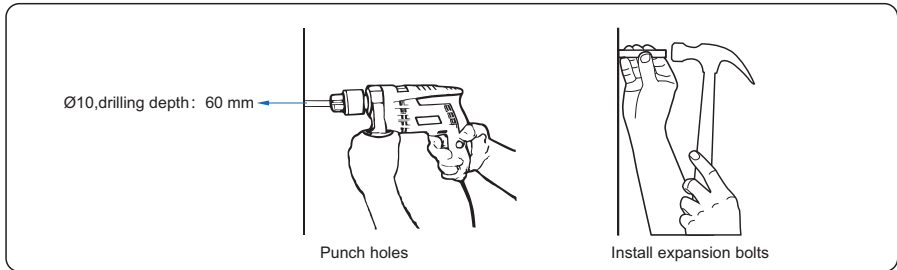

Figure 4.12 Punch holes and install expansion (unit: mm)
Step 4 Drill holes using a hammer drill and install expansion bolts, as shown in Figure 4.12.